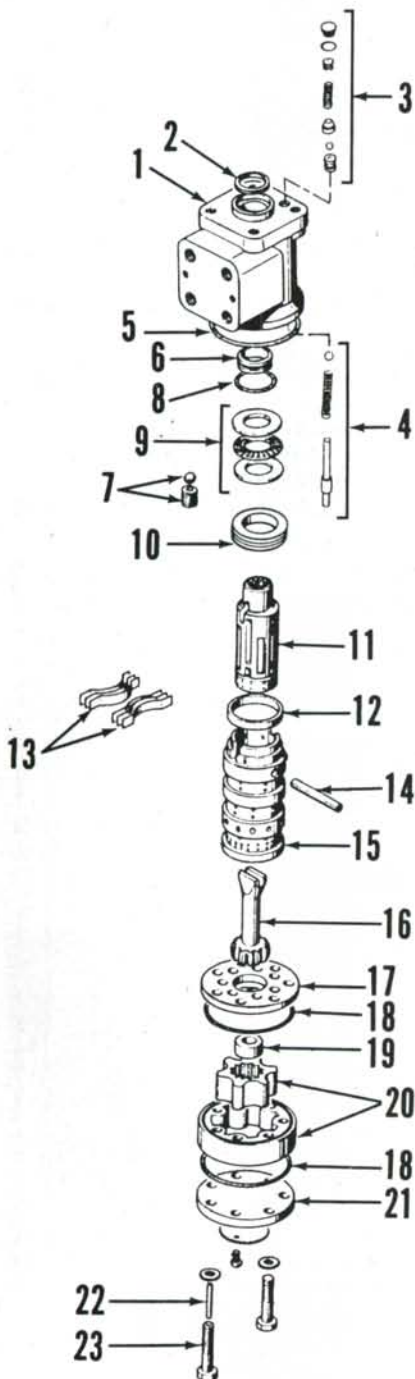

Fig. 15—Exploded view of hydrostatic steering hand pump and control valve assembly used on late production tractors.
Prior to disassembly, thoroughly clean the exterior of hand pump unit. Remove screws retaining end plate (21—Fig. 15), then lift off end plate, stator and rotor set (20), spacer (19), valve plate (17) and drive link (16). Remove threaded insert and ball (7). Slide spool (15) and sleeve (11) as an assembly from valve body. Remove locating bushing (12), ring (10) if so equipped, thrust bearing assembly (9), "O" ring (8) and Teflon ring (6). Remove oil seal (2) from top of valve body. Push the drive pin (14) out of sleeve and spool, then slide the spool from the sleeve. Push the centering springs (13) out of the slot in valve spool.
(14—Fig. 15), then carefully slide valve spool assembly into bottom of valve body. Be sure that pin slot in end of drive link is aligned with valley of inner rotor as shown in Fig. 14. This will